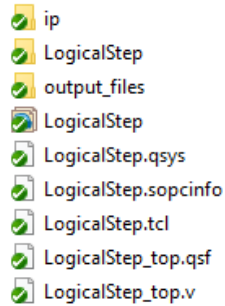

Figure 43: Files to delete
5. Now delete all the contents of LogicalStep project folder (files shown in Figure 43) but do not delete the LogicalStep project folder itself. Go to learn and download the 'LogicalStep.zip' file from the 'Lab 1 Support Files' folder, unzip the folder and copy the contents of LogicalStep folder into your project folder – do not move the whole folder.